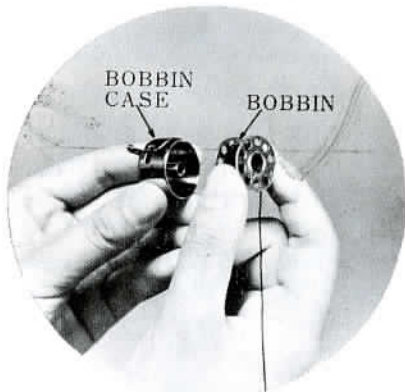

Fig. 4
Before threading the bobbin case, study Figs. 4, 5, & 6, to get a general idea as to how it is done.
1. Hold the bobbin case with your left hand, and put the bobbin into the bobbin case with your right hand, leaving about two inches of the thread unwound (Fig. 4). As the bobbin is being inserted into the bobbin case, the thread flow is clockwise.